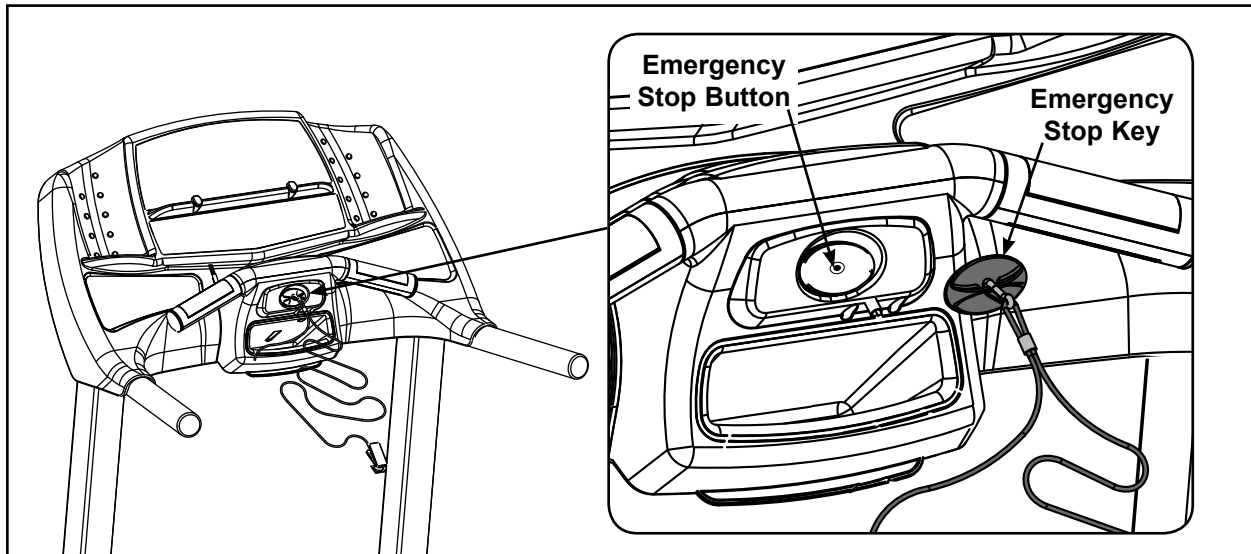

Figure 12
- A. Confirm that the emergency stop key is in place over the e-stop button. See Figure 12. **NOTE:** The treadmill will not run without the key in place.